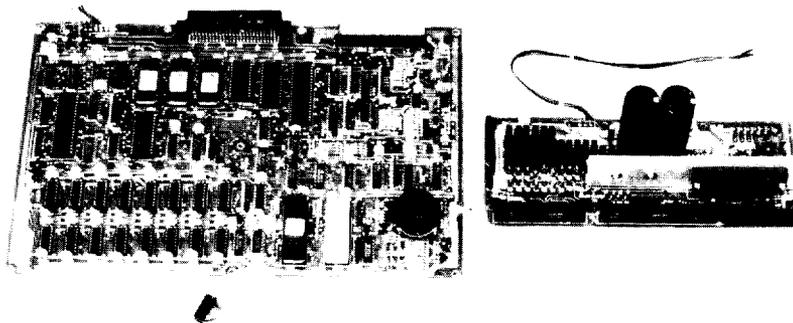

Fig. 1.3 Control circuit boards
(3) Contrl circuit boards (Fig. 1.3)